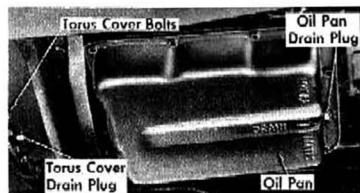

Fig. 85—Drain Plugs on Transmission Without Cooler
Remove torus cover drain plug (fig. 85) and thoroughly drain torus cover.
2. Remove oil pan drain plug (fig. 85) and thoroughly drain oil pan.